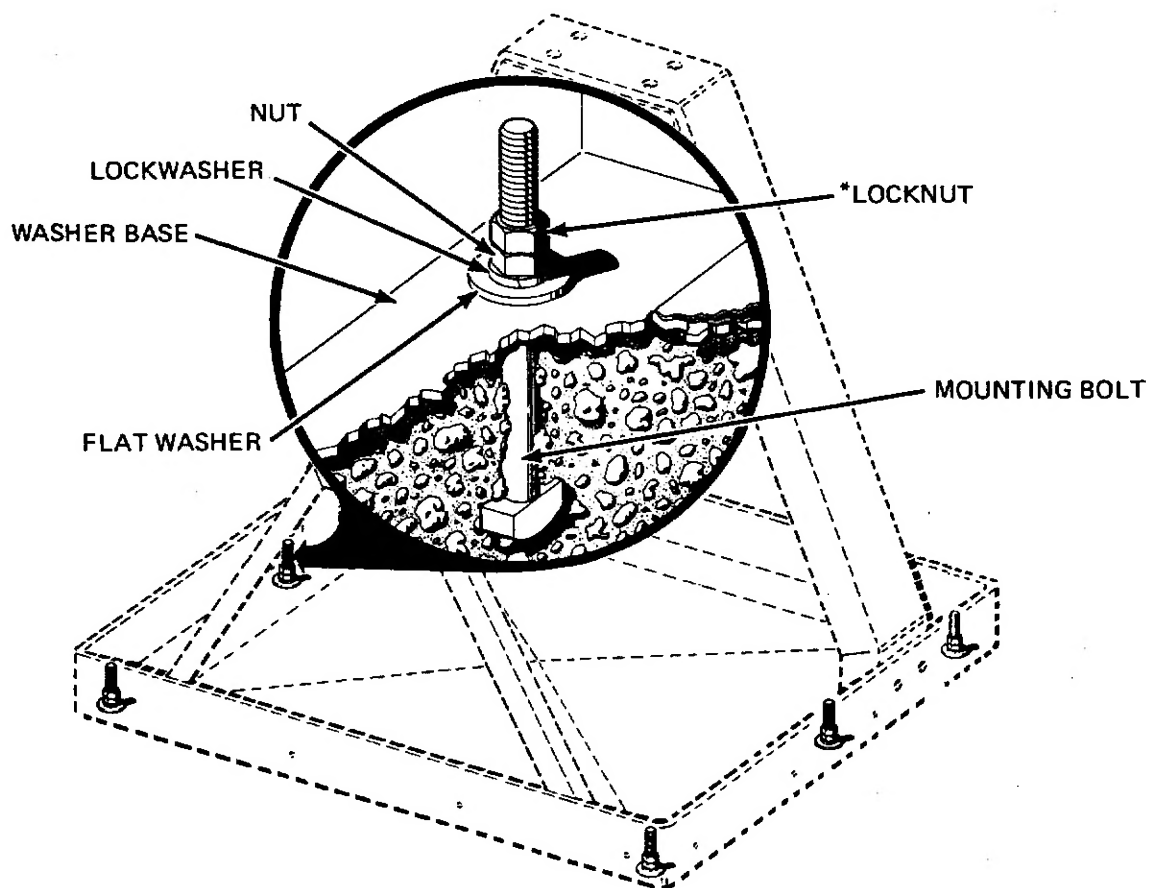

Figure 5
- Remove blocks from under washer and position No. 20162 washers, No. 91200 lockwashers, and No. 81121 nuts and locknuts on mounting bolts as shown in *Figure 5* and tighten securely.